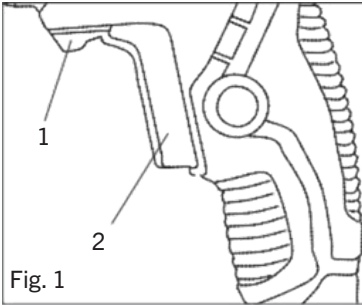

Fig. 1
The forward/reverse switch (1) is conveniently mounted in front of the trigger switch (2) (Fig. 1). To make the drill rotate clockwise for drilling push the forward/reverse switch to the left. To make the drill rotate counterclockwise, push the forward/reverse switch to the right.